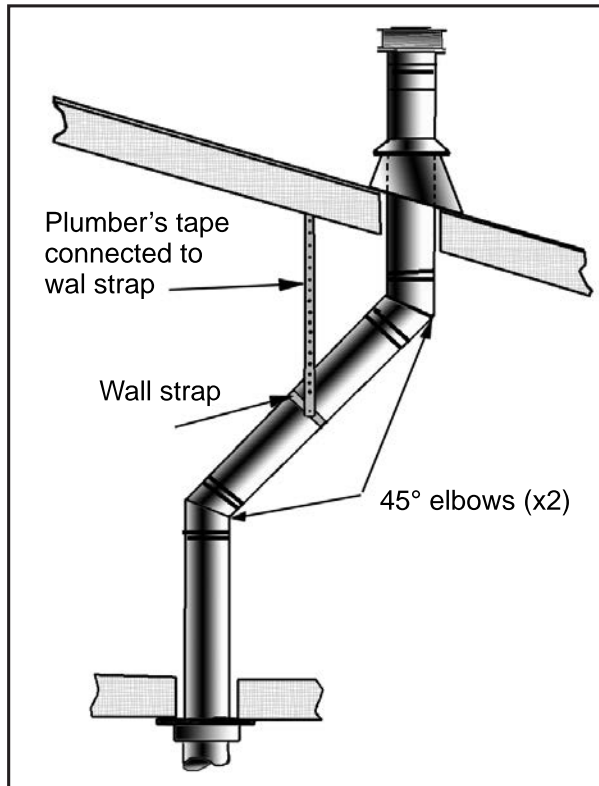
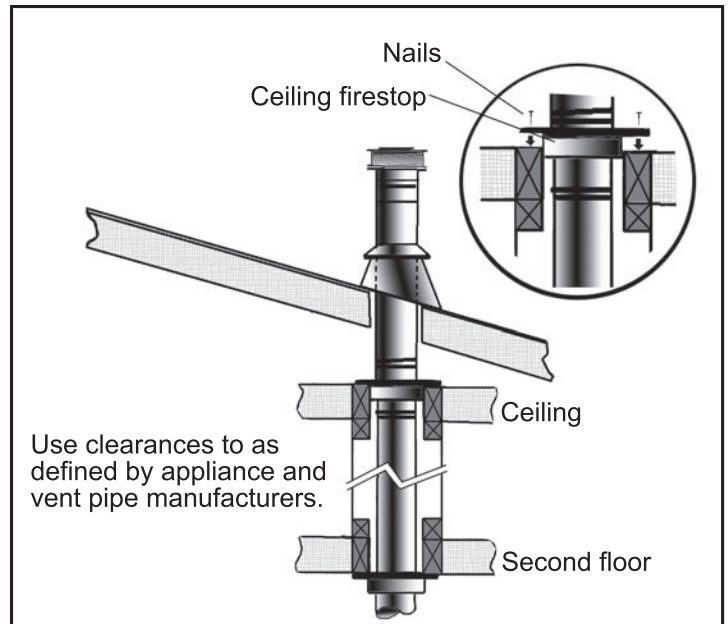

Figure 40: Use of Wall Straps.
Figure 41: Multi-Story Vent Pipe Installation.
- (1) If an offset is necessary in the attic to avoid obstructions, it is important to support the vent pipe every 3 feet (914 mm), to avoid excessive stress on the elbows, and possible separation. Wall straps are available for this purpose (see Figure 40).
- (2) When ever possible, use 45° degree elbows instead of 90° degree elbows. The 45° degree elbow offers less restriction to the flow of flue gases and intake air.
- (3) For multi story installations; a ceiling firestop is required at the second floor, and any subsequent floors (see Figure 41). The opening should be framed to 10" (254 mm) x 10" (254 mm) inside dimensions, in the same manner as shown in Figure 29.
- (4) Any occupied areas above the first floor, including